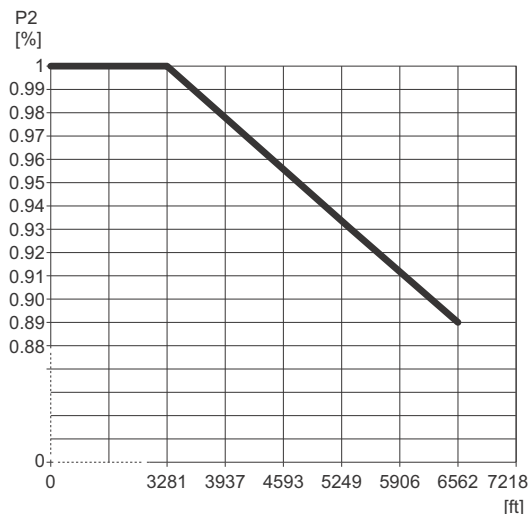

Fig. 49 Derating of motor output power (P₂) in relation to altitude above sea level
- Motors installed more than 3280 ft (1000 m) above sea level must not be fully loaded due to the low density and consequent low cooling effect of the air. See fig. 49.